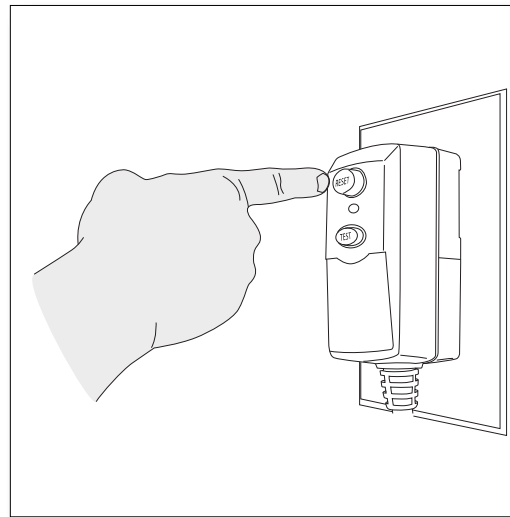

Fig. 19
- Unwind the power cord completely and plug the GFCI into a grounded 120 volt outlet. Press the ‘reset’ button on the GFCI box (*Fig. 19*). The indicator window should show a red color. This must be done each time the unit is plugged in.